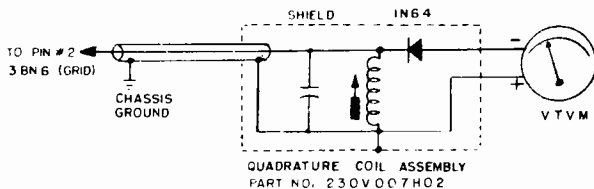

Figure 14. 4.5 MC detector probe.
1. Connect detector probe (Figure 14) to control grid (pin 2) of 3BN6. Use VTVM range suitable for measuring small negative voltages.
2. **Detector probe, 4.5 MC** - This probe may be easily constructed from a quadrature coil assembly and a crystal diode. See Figure 14 for construction details.